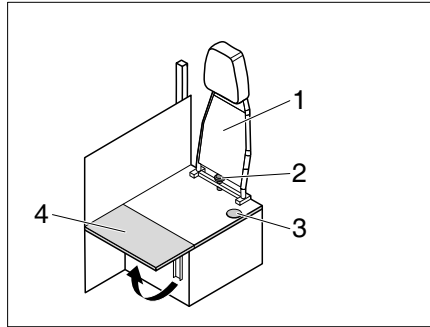

Fig. 214 Conversion drive - living mode
- Unscrew the star screw (Fig. 214,2) and remove the backrest (Fig. 214,1) towards the top.
- Fold up the bench seat extension (Fig. 214,4).
- ▷ When converting from living to travel mode proceed in the reverse order. Make sure that the safety belt is lead through the opening (Fig. 214,3).